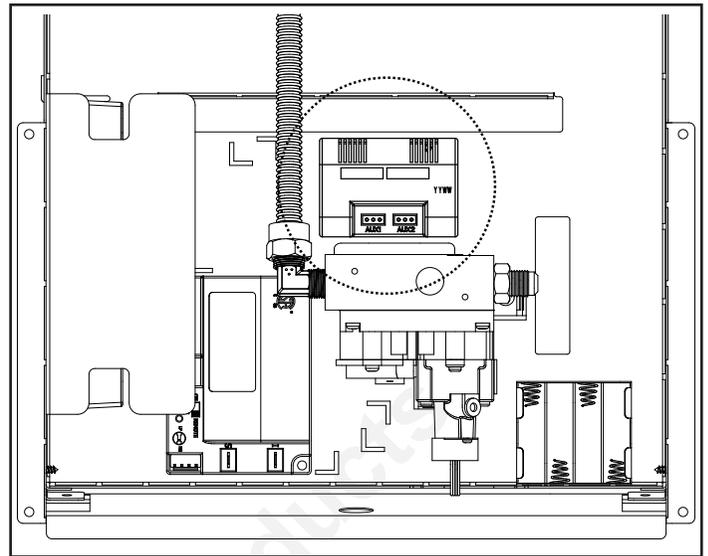

Figure 8.3 - Auxiliary Box
1. Install the AUX200/AUX300 auxiliary box into the stove. The auxiliary box is intended to be installed in the component tray directly behind the gas valve, Figure 8.3.